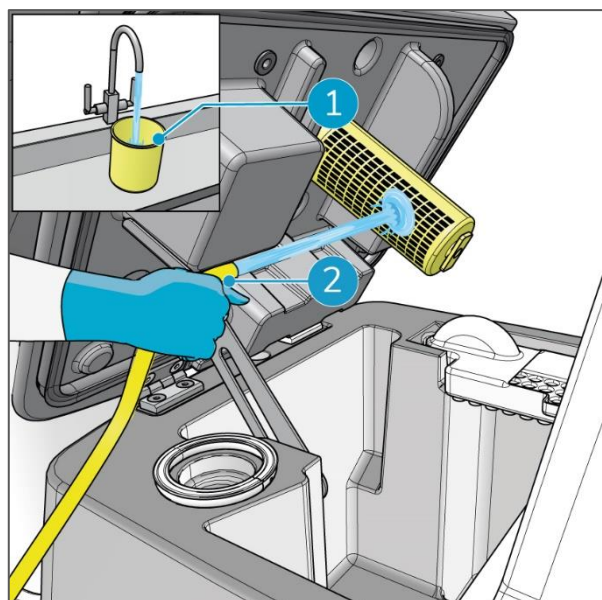

Figure 56
2. Clean the yellow cup with tap water, above a sink (Figure 56, pos 1).
3. Clean the separator with a hose (Figure 56, pos 2).